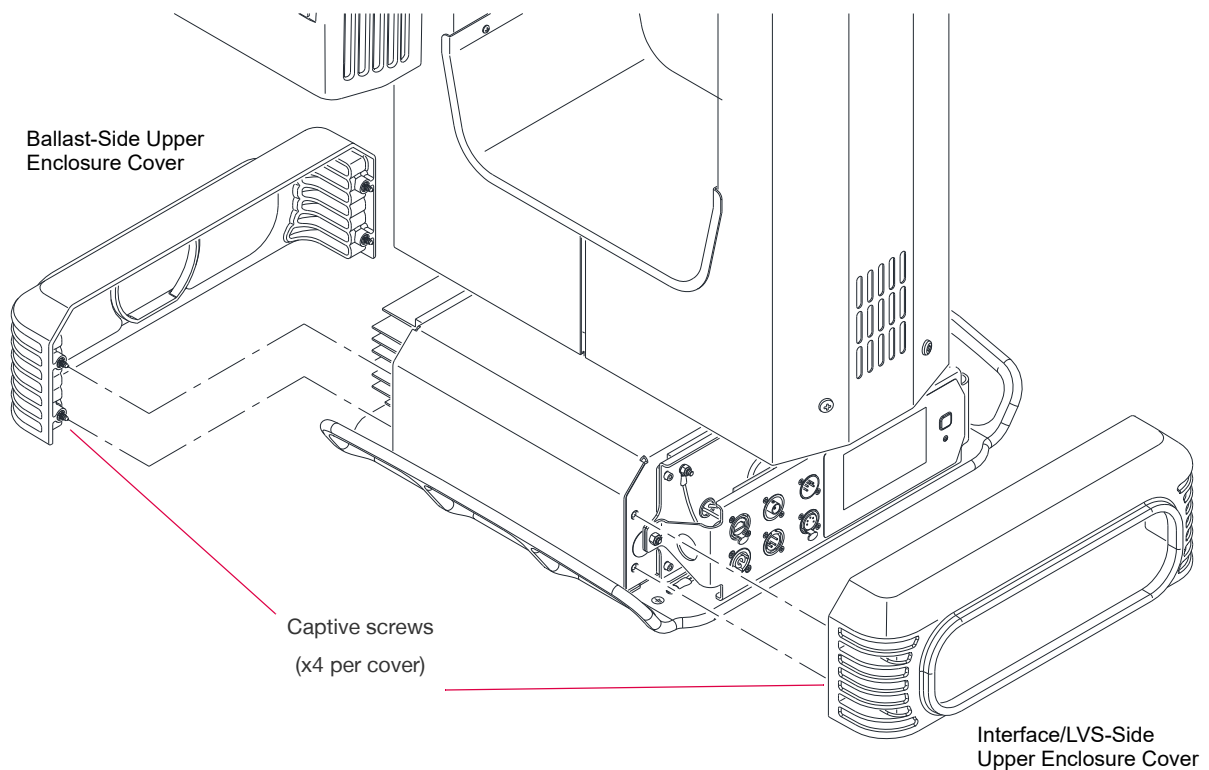

Figure 3-9: Removing Upper Enclosure Covers
- Step 1. At cover, loosen four captive screws (**Figure 3-9**).